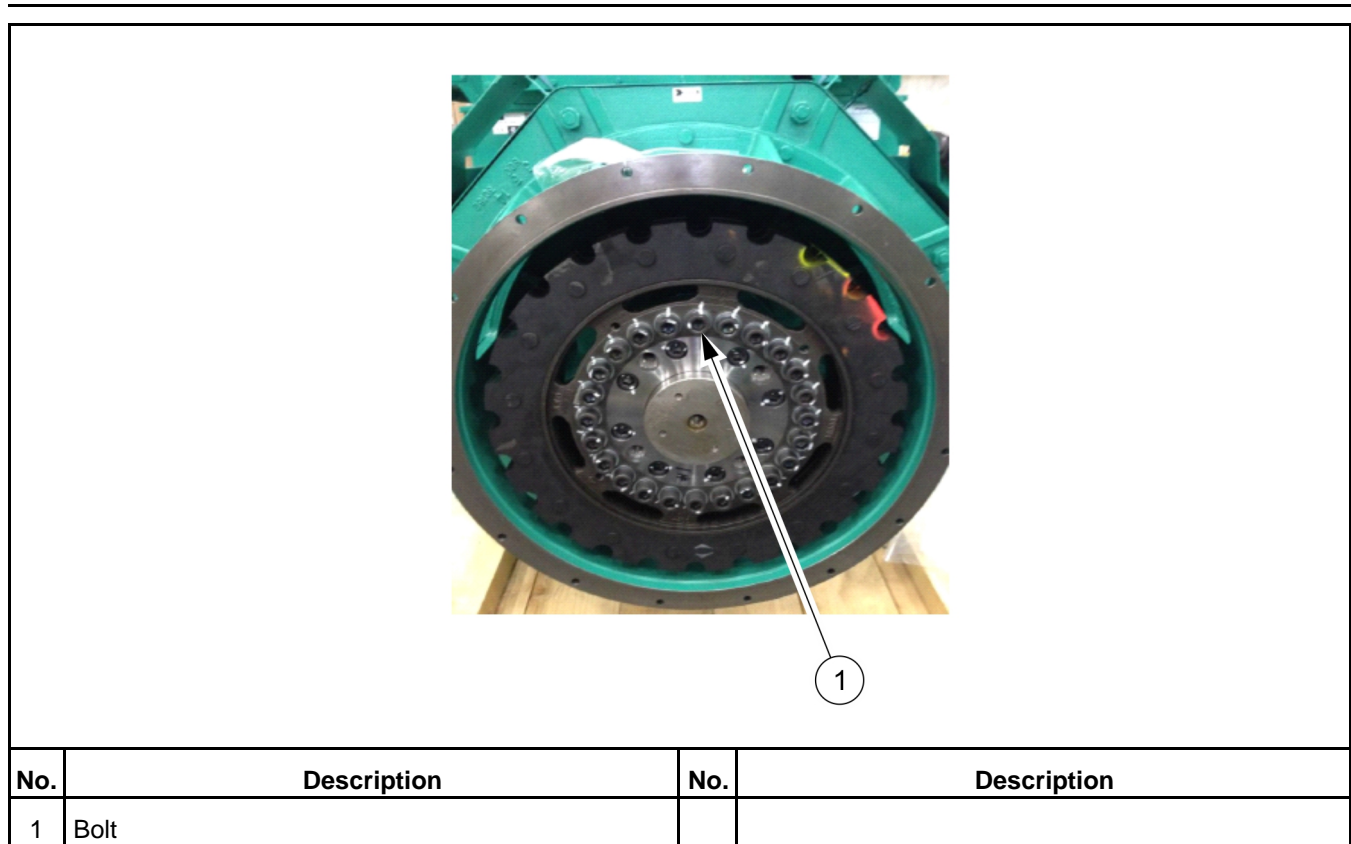

FIGURE 29. RUBBER ELEMENT BOLTS
17. Remove one alternator bell housing mesh to check that the spacer again Figure 29 to make sure it does not move.